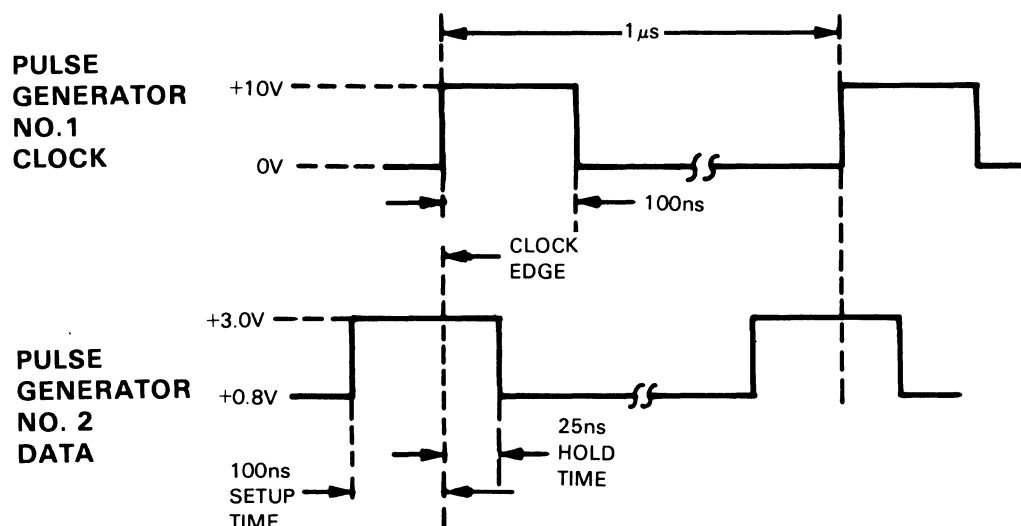

Figure 4-13. Data Lines Test Waveforms
- Adjust pulse generators for waveforms shown in figure 4-13.